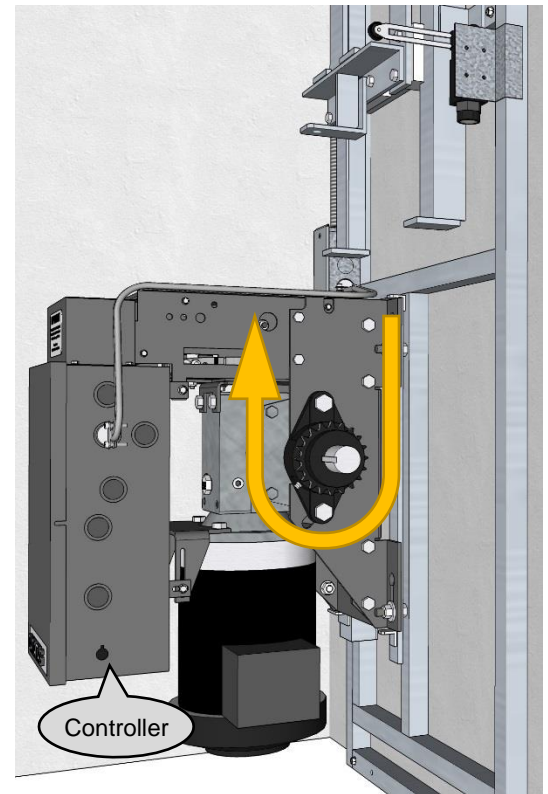

Figure 9
- 3** Watch the rotation of the sprocket when the up contactor is pressed. If the direction of rotation is not the same direction as shown in **Figure 9**, go on to **Step 4**. If the direction of rotation is the same as shown in **Figure 9**, go on to **Step 5**.